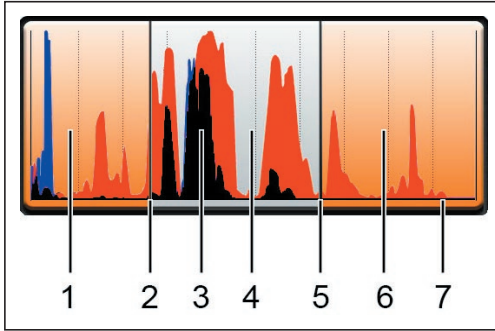

Fig. 21: Frequency graph
1. Tap the frequency graph (fig. 21)